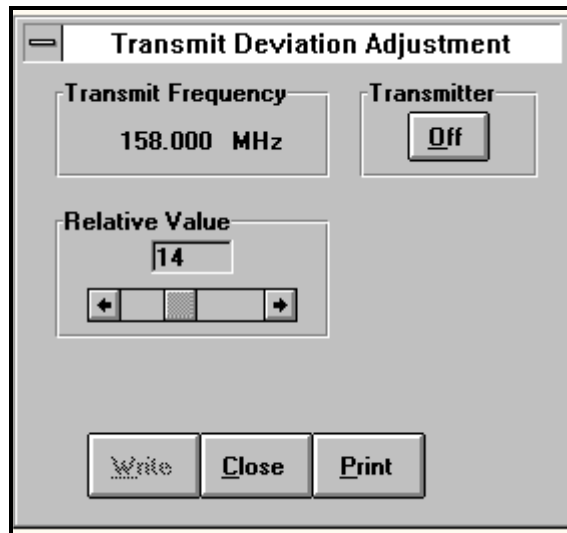

Figure 7.2 – Transmit Deviation Adjustment
1. Select "Transmit Deviation Adjustment" from the Service dropdown menu. The service adjustment window is shown in Figure 7.2.